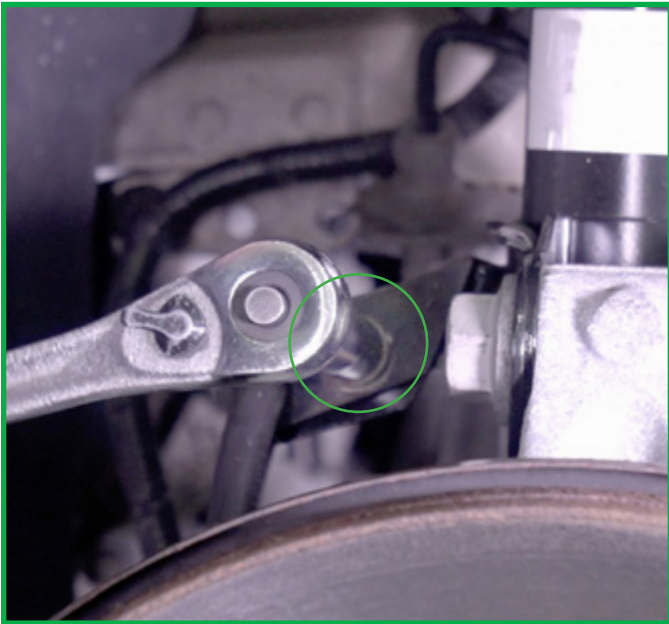

FIGURE 8
5. Remove the brake line retainer bracket bolt and disconnect bracket. (Figures 8, 9)